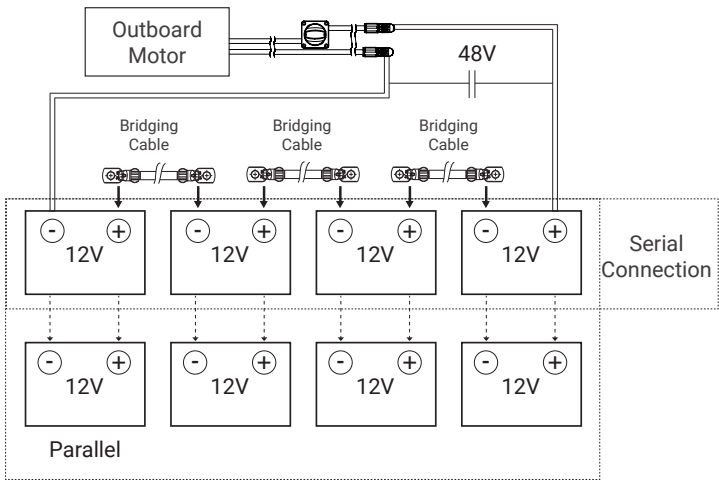

Figure 4-3
When connecting four 12V batteries in series to make a 48V battery set to supply power for NAVY 6.0 Evo(2024), use bridging cables to connect batteries in series (Figure 4-3). Make sure to connect the main switch cable to battery positive terminal and the other cable to battery negative terminal.
- ⚠ Never reverse the polarity. Please pay more attention when connecting batteries in series and/or in parallel configuration. Always double check by referring to Figure 4-3.